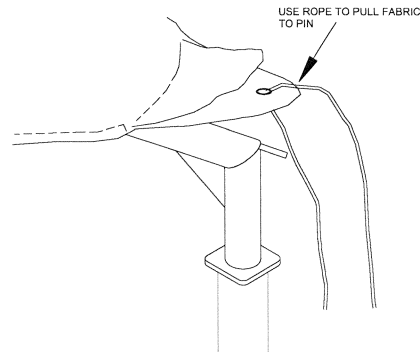

Figure 22
4. Insert a 3 ft. piece of rope in the hole of the remaining corners and pull the rope down until you have all four corners secured by the pins. Figure 22.